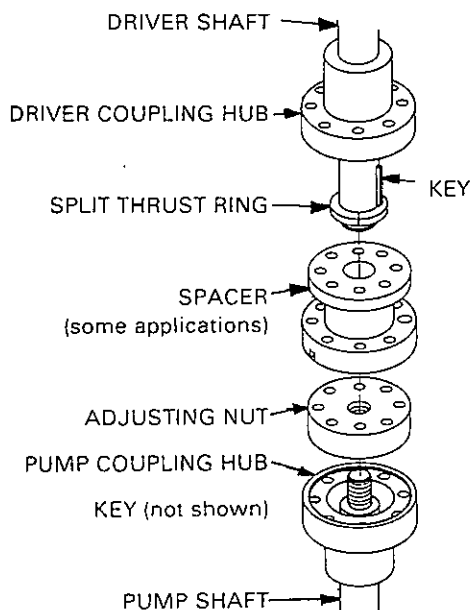

Fig. 9 Flanged coupling
19. **Flanged Coupling?** (See Fig. 9) Install driver hub and pump hub if pump is equipped with flanged type coupling.